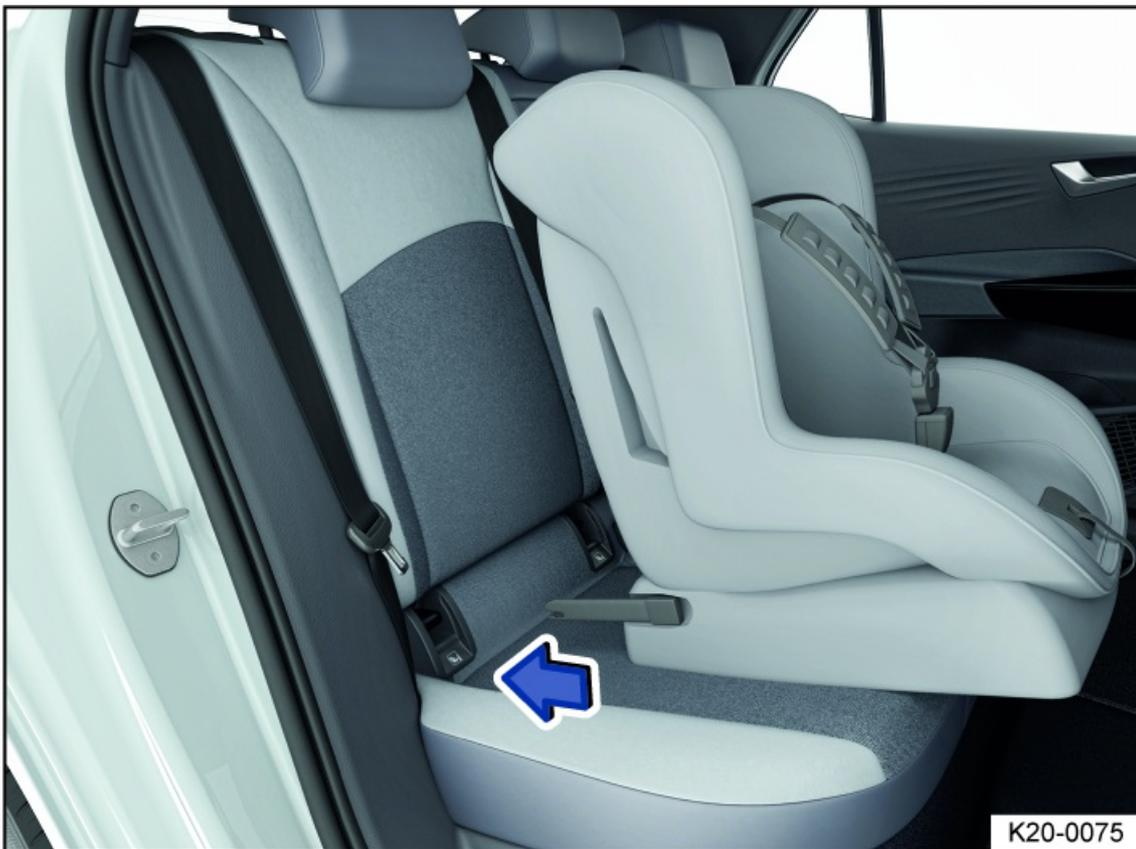

Fig. 37 Fitting a child restraint with arms (general example).
3. Push the attachment arms of the child restraint in the direction of the arrow onto the ISOFIX/lower LATCH anchorage points *fig. 37*. The child restraint must engage securely and audibly.